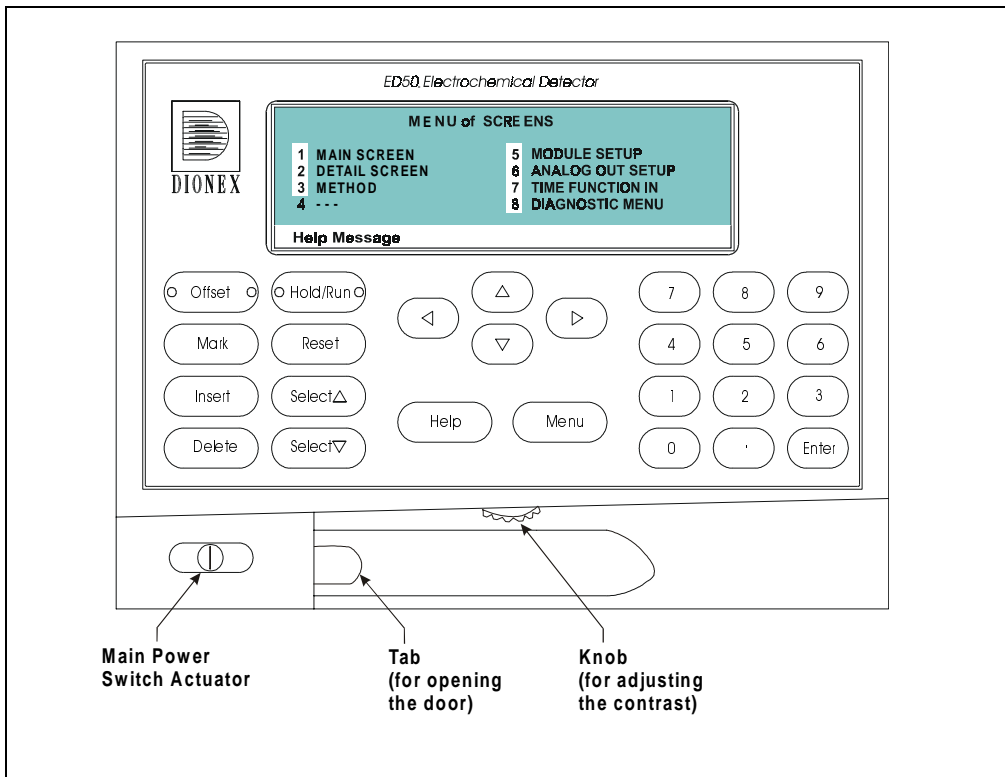

Figure 2-1. ED50 Front Panel
The main power switch is on a bulkhead inside the electronics chassis (in the front, left-hand corner). The actuator for the power switch is on the front door, below the control panel (see Figure 2-1). The actuator functions only when the front door is fully closed. When the door is open, press the main power switch to turn the ED50 on and off.
- To adjust the screen contrast, rotate the knurled knob in the recess below the **Help** and **Menu** buttons (see Figure 2-1).